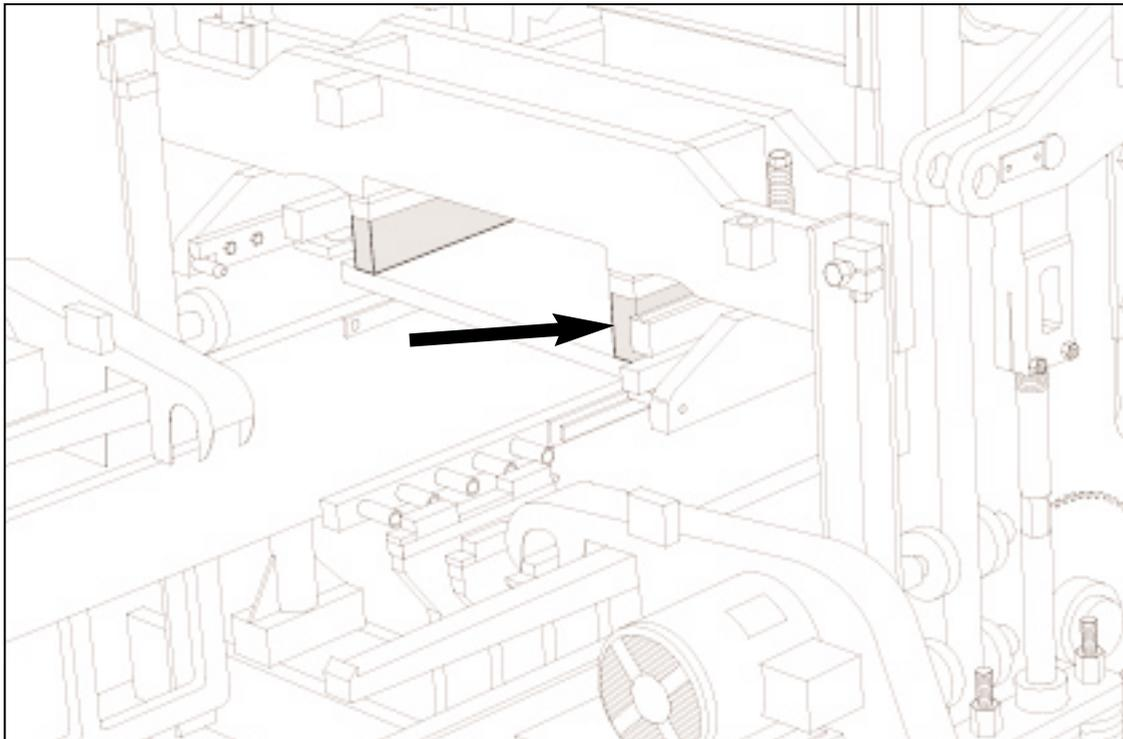

Figure 4.15 4 3/8" [111mm] BLOCKING UNDER STRIPPER HEAD FRAME.
4.1.8 The ULTRAPAC II is now ready for the installation of the mold assembly. Follow the directions for installing an attachment in section 5 of this manual. When installing the stripper head, insert **4 3/8" [111mm]** of blocking in addition to the **1 1/2" [38mm]** blocks already affixed to the stripper head frame (figure 4.15). The above blocking assumes a stripper head height of **14 3/16" [360 mm]** from the top of the head plate to the bottom of the shoes.